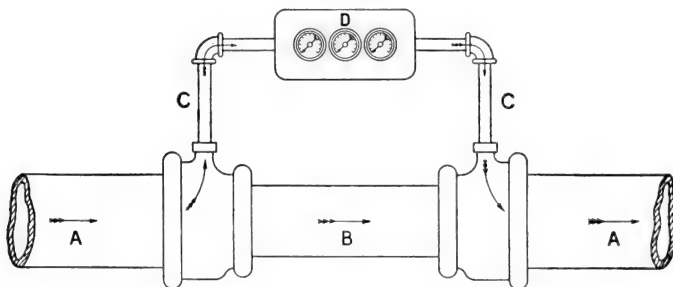
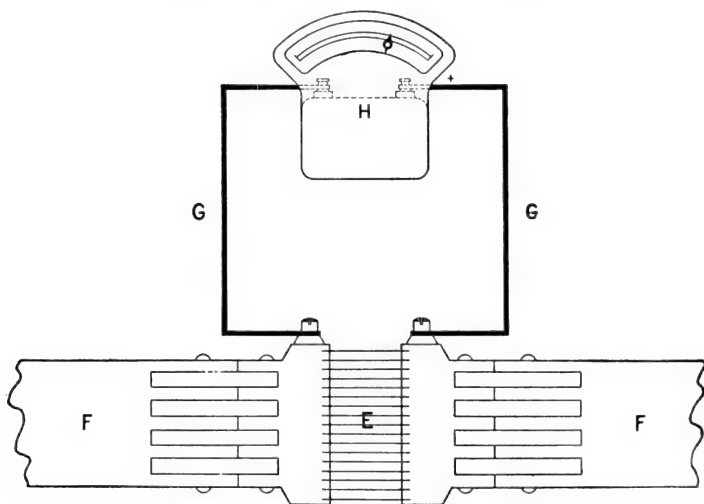

Fig. 25. Water Main or System
Fig. 26. Electrical Bus Bars and Shunt
**Water Analogy of a Direct-Current Ammeter.** A clear conception of the operation of an ammeter may be obtained by means of a water-main analogy. The pipe or water main *AA*, Fig. 25, through which water is flowing under pressure, as in city water mains, may be compared with the conductor or bus bar *FF*, Fig. 26. The pipe section *B* of reduced diameter corresponds with the shunt *E*, and the